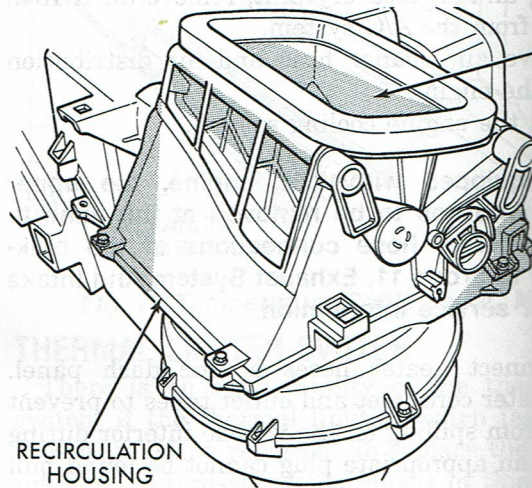
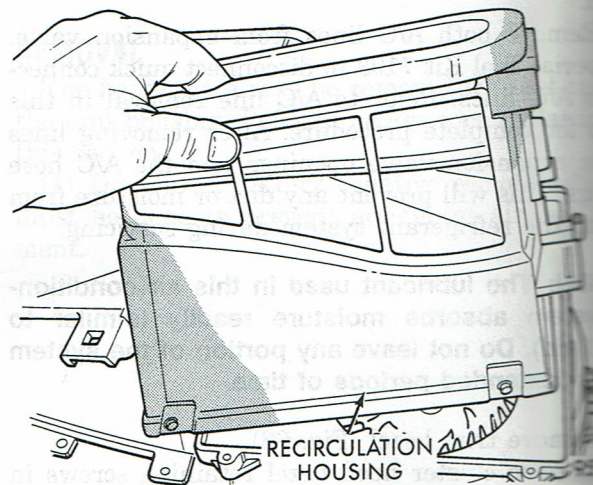

Fig. 77 Recirculation Air Inlet
Fig. 78 Recirculation Housing Removal
- (3) Remove upper recirculation air inlet housing (Fig. 77) and (Fig. 78).